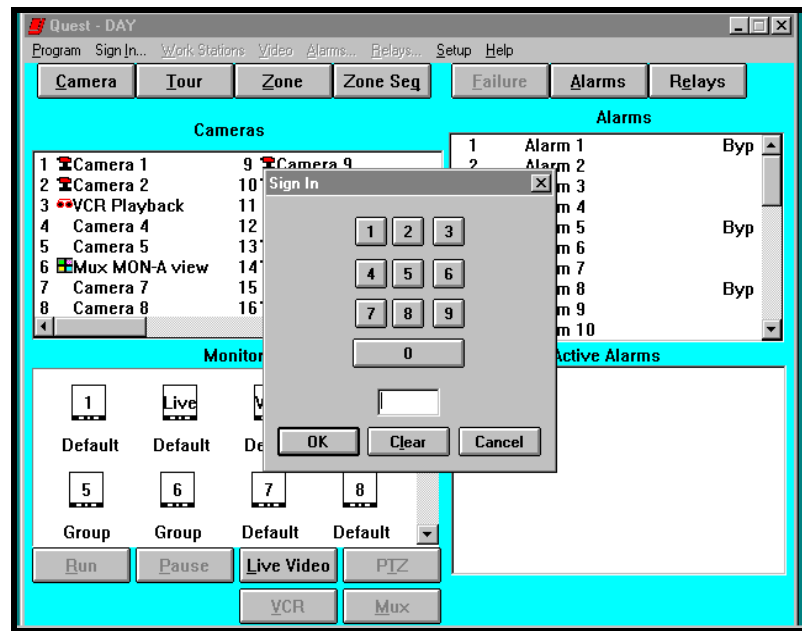

Figure 3-2. Sign In Dialog Box
1. Click on **Sign In** from the menu bar to display the Sign In dialog box (Figure 3-2).